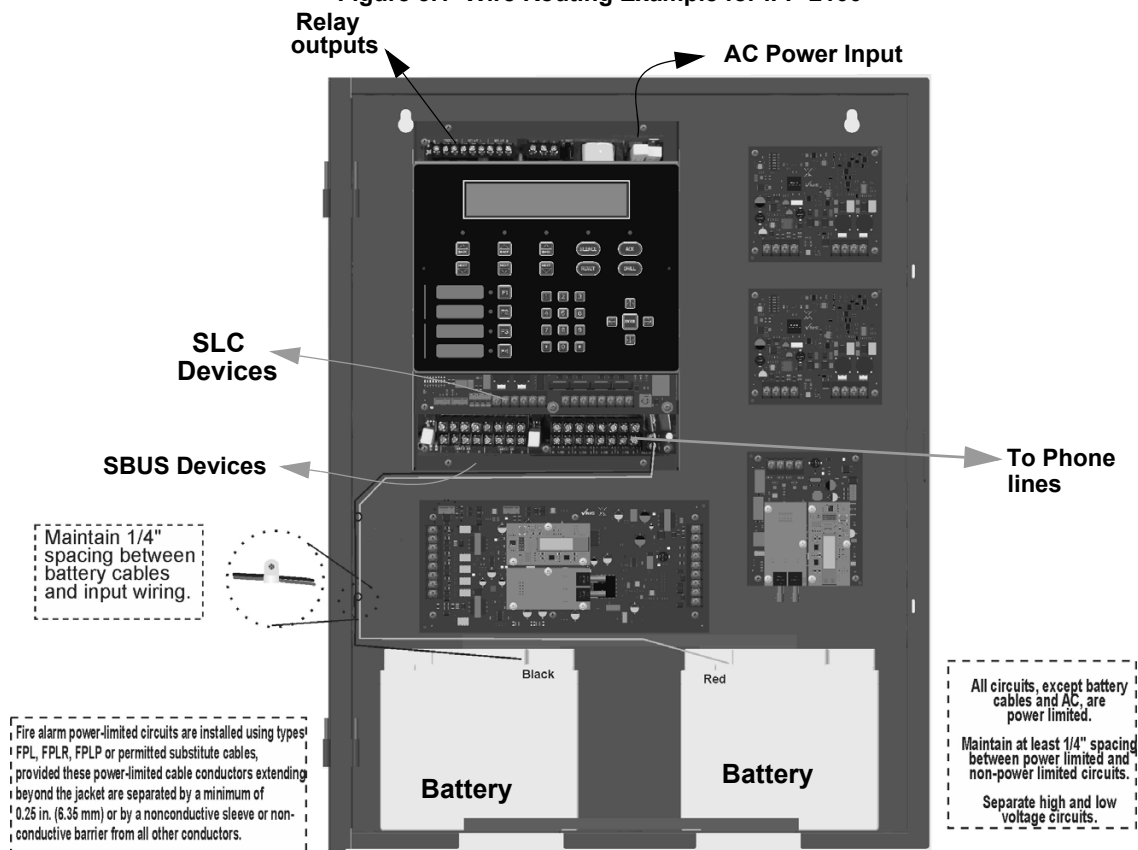

Figure 3.2 Wire Routing Example for IFP-2100ECS
- Route the wiring around the inside perimeter of the cabinet. It should not cross the circuit board where it could induce noise into the sensitive microelectronics or pick up unwanted RF noise from the high speed circuits. See Figure 3.2 for an example.